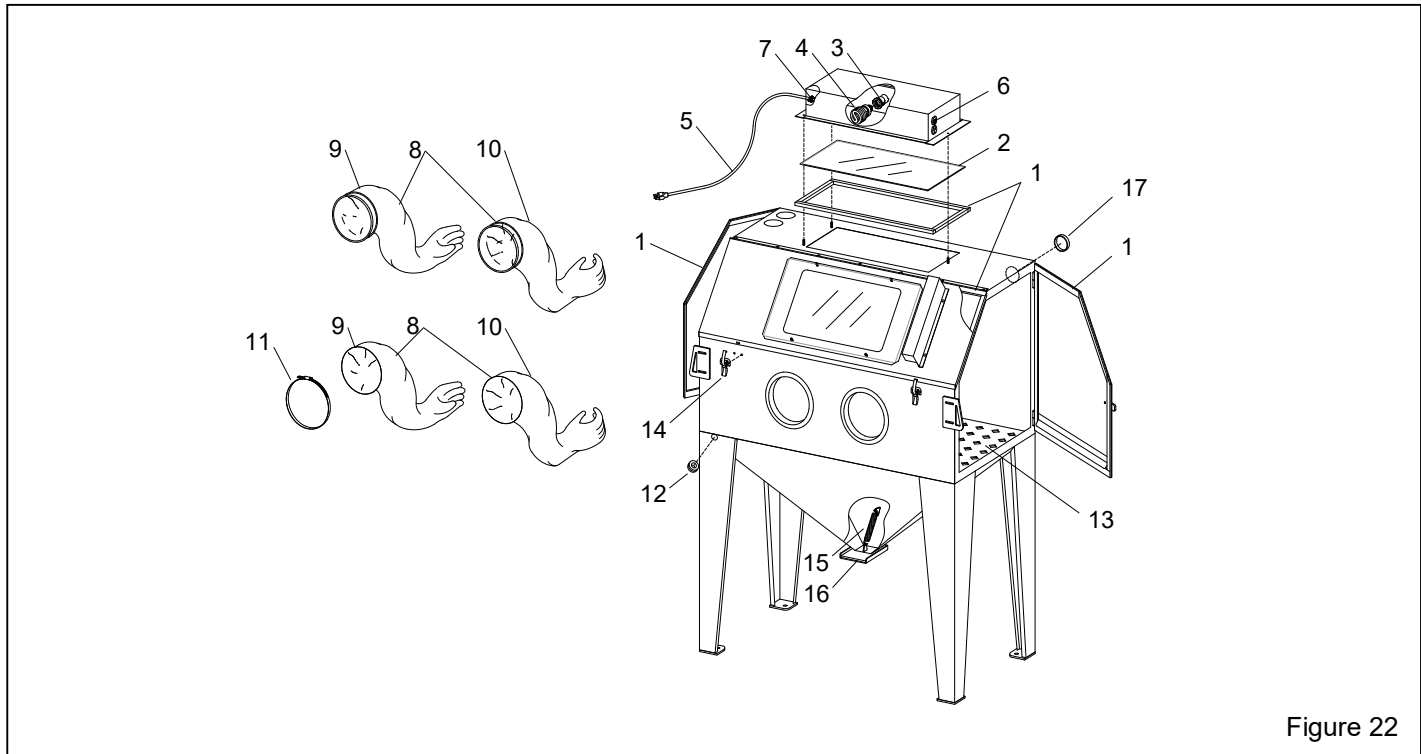

Figure 22
**11.2 Cabinet Assembly, Figure 22**